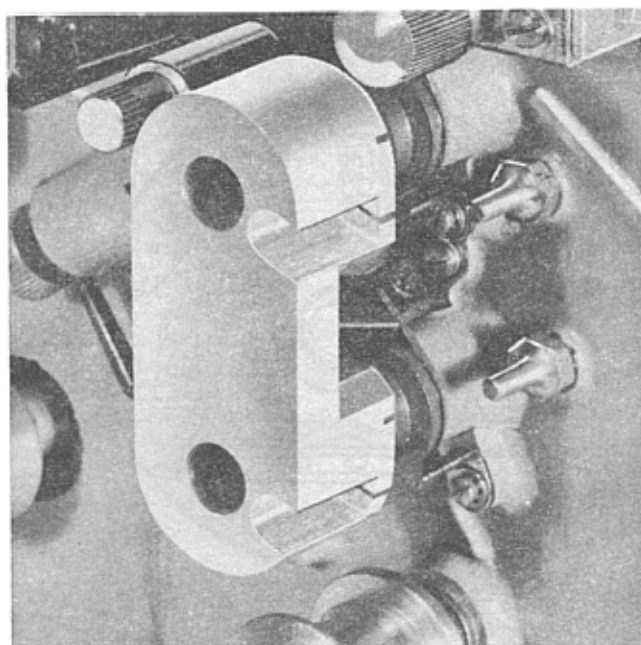

Figure 2-42. Using Sprocket Synchronizer Gage
c. Place sprocket and shuttle synchronizer gage (Tool No. S-061081-N31, figure 2-1) over sprockets as shown in figure 2-42. Teeth on both sprockets must enter grooves in the gage, and the gage must be in exact perpendicular position as shown in figure 2-42.